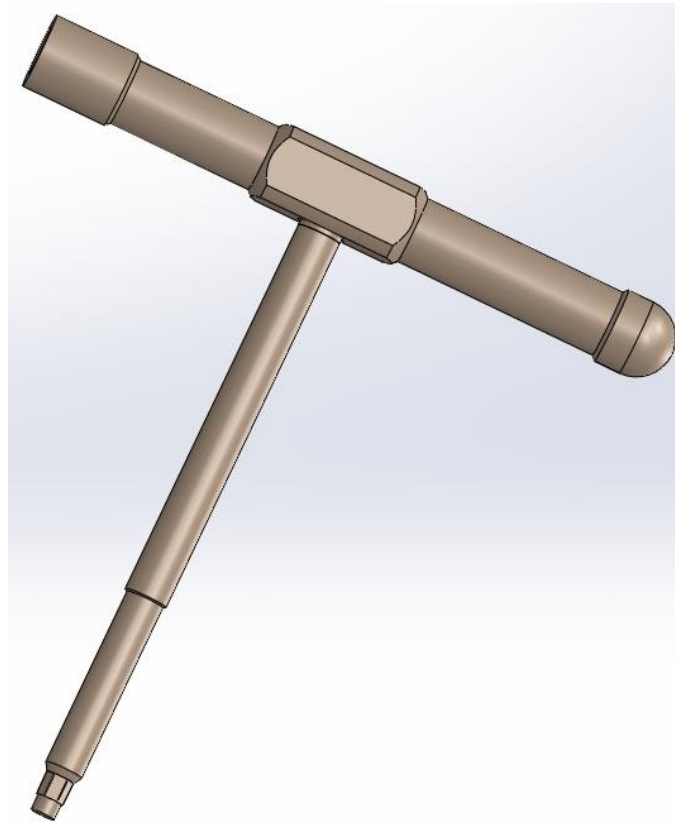

Figure 3 - Handle and Driver in the “T” configuration
7. Orient the Handle in an orthogonal direction to the Driver, and insert the Driver’s Oval feature into the mating slot in the Handle. The T-handle configuration is shown in Figure 3.